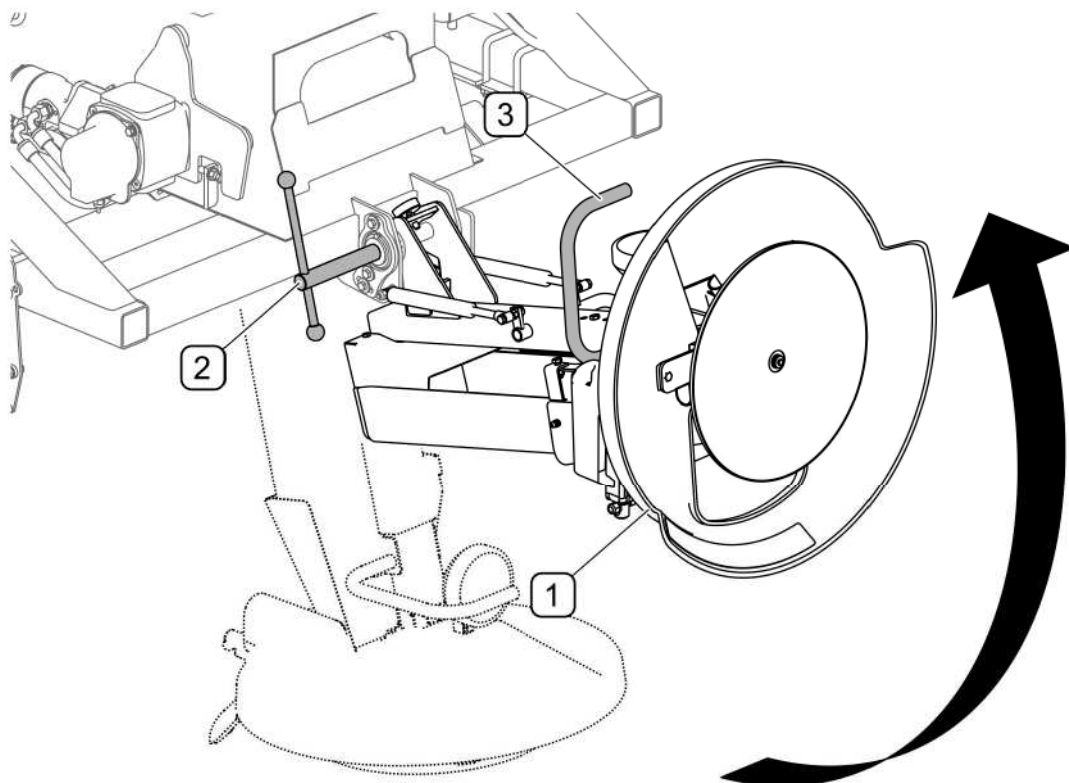

FIG. 4.32 Raising the spreading mechanism
- raise the spreading unit and lock it in the upper position (FIG. 4.32)
To raise the spreading mechanism for unloading (FIG. 4.32) do the following: